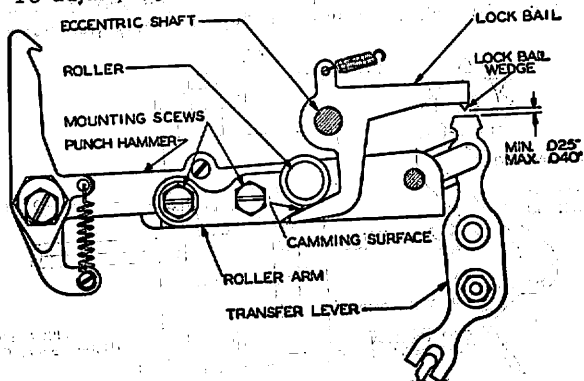

Fig. 6
3.13 **Lock-bail wedge** shall be seated firmly between at least two transfer-levers, with the "Y" combination set up and the main-shaft rotated until the punch-hammer is in its extreme upward position. For identification of parts see Fig. 6.
3.14 Lock-bail wedge shall clear the transfer levers by Min. .025", Max. .040" when the main-shaft is in its stopped position and the transfer-levers are held in center of their travel. Fig. 6